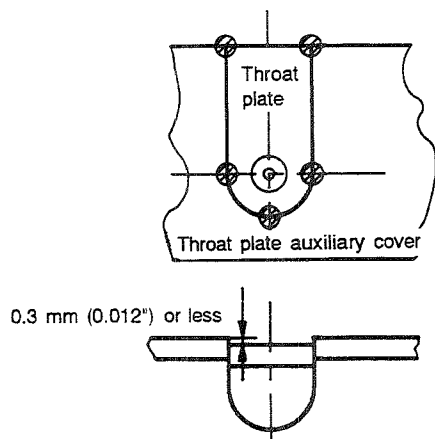
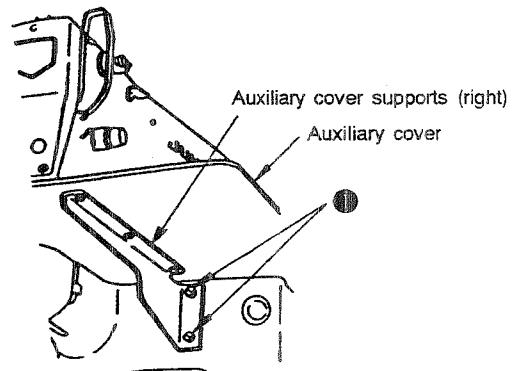

Fig. 5-25-1
Fig. 5-25-2
<ul style="list-style-type: none"> ○ Loosen four setscrews ❶ (two setscrews in both the left and right) of the throat plate auxiliary cover supports, and adjust so that the throat plate auxiliary cover is positioned higher than the throat plate by $0.3 \text{ mm } (0.012")$ or less. Then tighten the setscrews. At this time, be careful to adjust the points marked by the black dots (●) (Fig. 5-25-1). (Fig. 5-25-1, Fig. 5-25-2) 	<ul style="list-style-type: none"> ○ The feed plate will be caught by the stepped parts formed by the throat plate and the throat plate auxiliary cover, resulting in a deformed pattern. ○ The feed plate may bend.